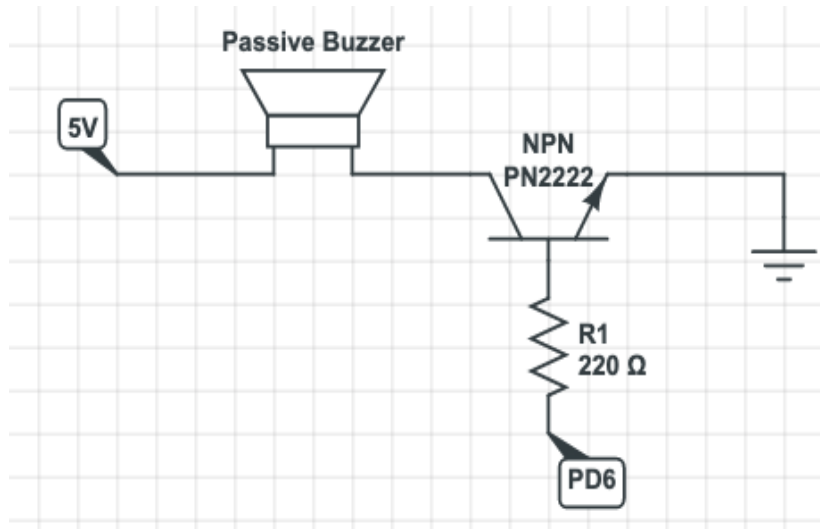

Figure 1 Circuit diagram for buzzer
- Why is there a resistor required at the base of the transistor in Figures 1?
- Why is a BJT used instead of a MOSFET in Figure 1 and can a MOSFET be used instead?